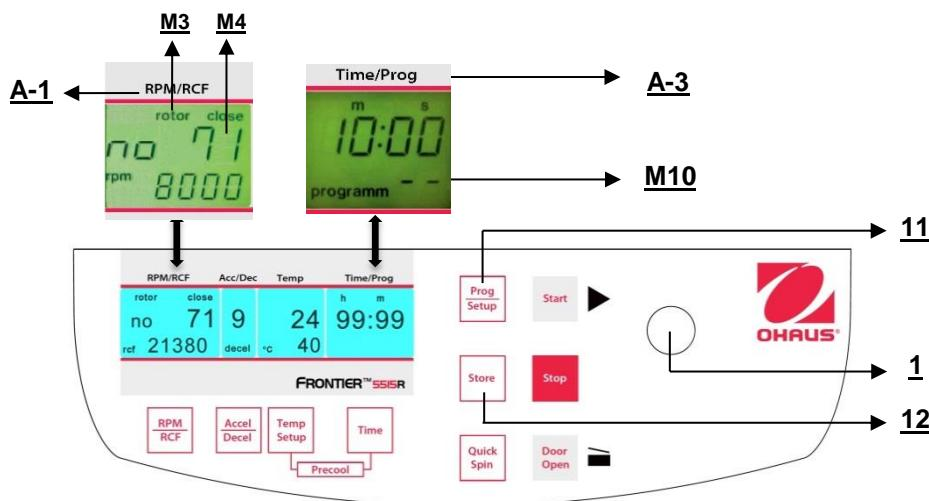

Figure. 25
To recall stored programs press the key Prog/Setup (11) (refer to figure 25) while the lid is already closed. Inside the display Time/Prog (A-3), programm -- (M10) appears. The desired program number can be pre-selected with the adjusting knob (1).
To leave the program mode just press the key "Prog/Setup" (11) (refer to figure 25). Then inside the display "Time/Prog" the word "programm" appears.